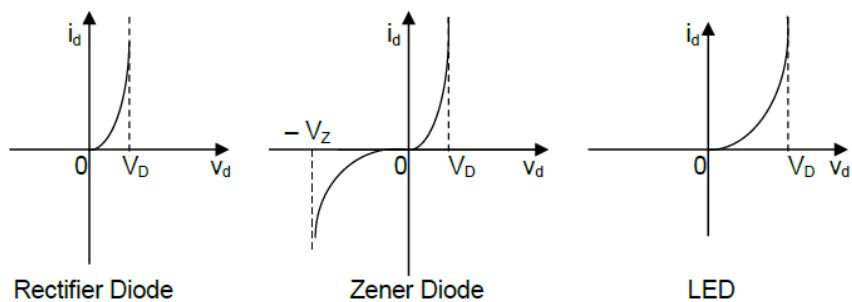

Fig. 2.1 $i-v$ Characteristics of different types of Diodes
All diodes are nonlinear resistors, with characteristic curves as shown in **Fig. 2.1** for the three different types of diodes studied in this experiment. The forward-bias voltage drop V_D has a value 0.5 – 0.6V for Rectifier Diodes and Zener Diodes, while LEDs of different colours have different values of V_D . Zener Diodes are designed for specific values of the reverse breakdown voltage V_Z .
- For all the diodes (viii – xi), set the WAVEGEN output for Peak-to-Peak value = **4V**, and adjust the **Offset** as necessary in **each** case to obtain the best graph according to the expected characteristic curve given in **Fig. 2.1**. Measure the values of V_D and V_Z for all the given diodes and tabulate your result. (viii) Rectifier Diode, (ix) Zener Diode, (x) Red LED, (xi) Green LED.